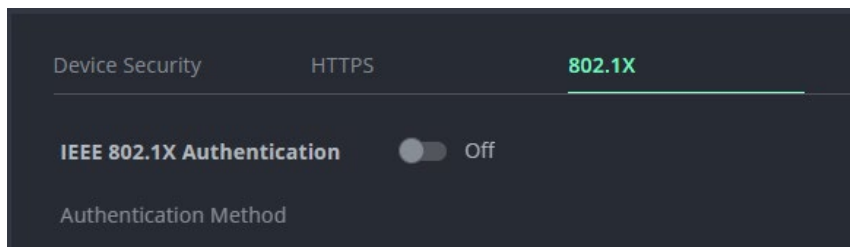

Figure 57: 802.1X Tab
2. Select **802.1X** tab. The 802.1X settings tab appears (Figure 57).